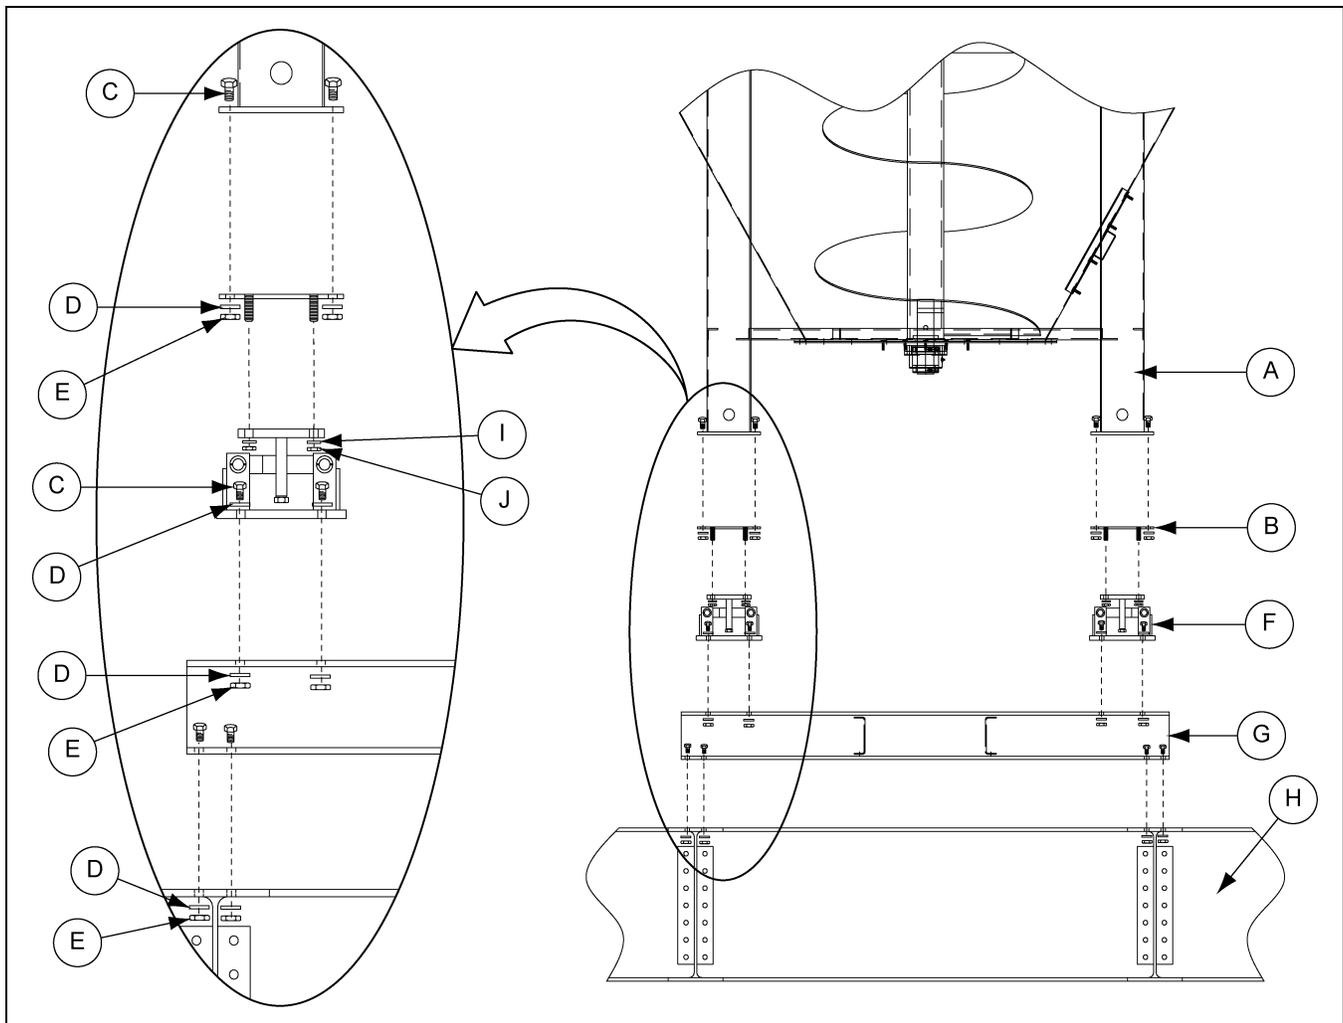

Figure 5C Load Cell Assembly
3. The load cell (F) is mounted on the scale base (H) using the hardware provided (C, D and E).
4. Connect the load cells (F) to the summing board in the junction box.
5. Adapter plate (B) is mounted onto the load cell (F) with the attaching parts.
6. The blender (A) is positioned over the adapter plate (B) and assembled as shown in *Figure 5C*.